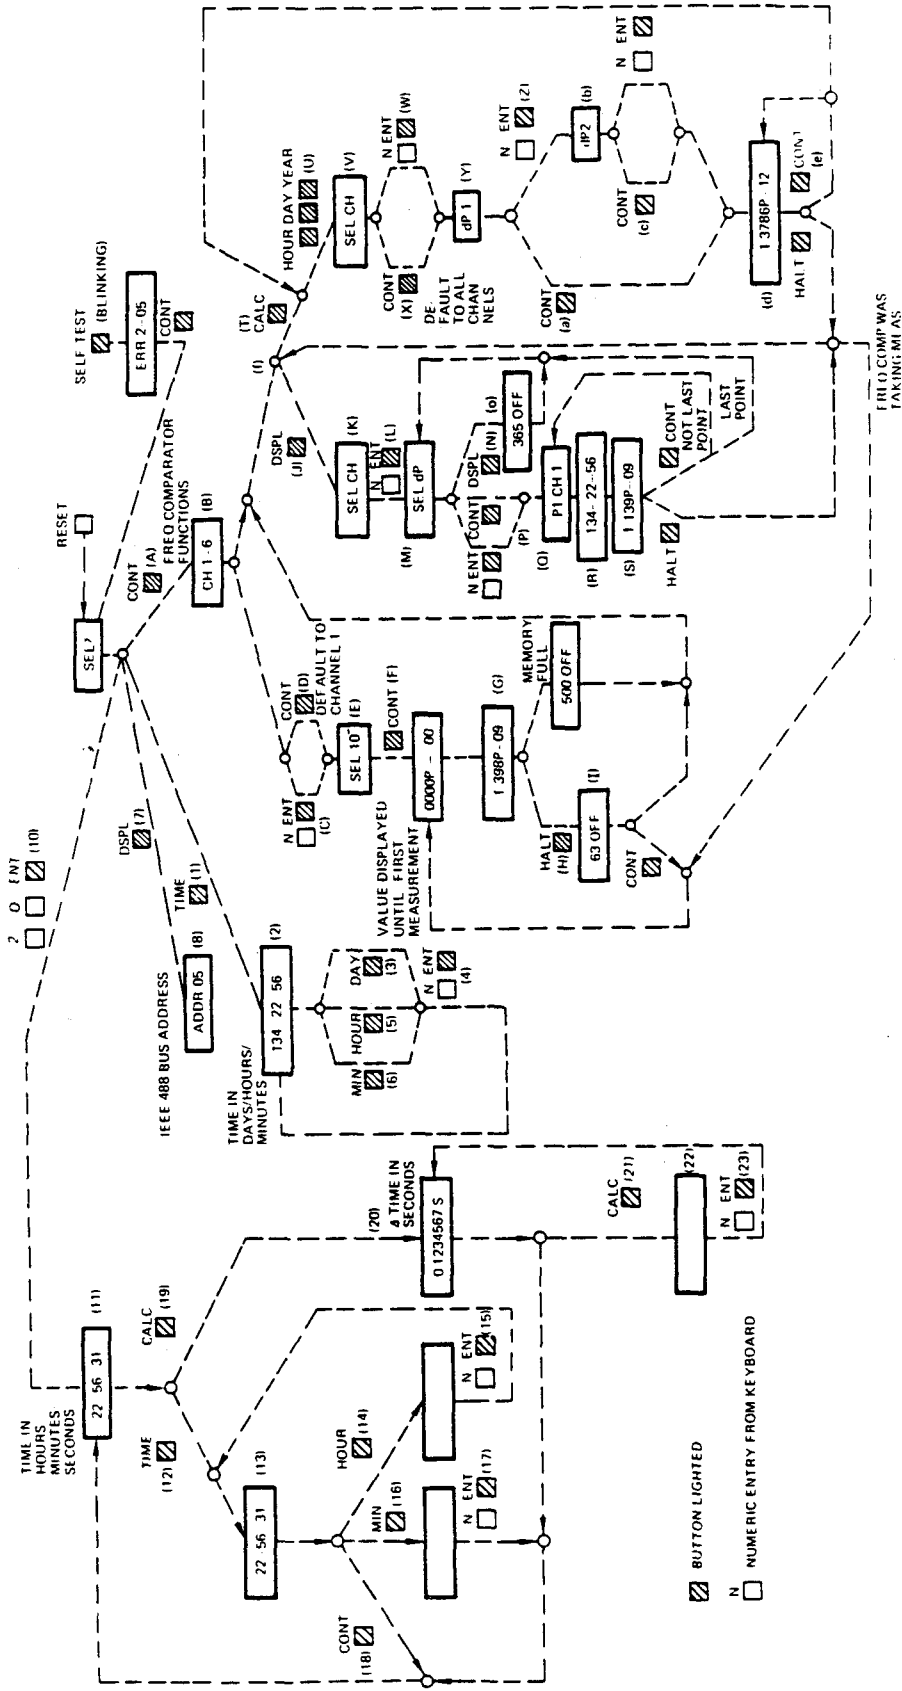

Figure 3.2 Operational Flow Diagram
The following procedures and Figure 3.2 provide the operating instructions for the module controller. Specifically, these instructions tell the operator how to:
The lighted pushbuttons are the only ones that can be used during a routine. The CLR pushbutton only clears the display. In the following procedures, the letters or numbers in parentheses refer to steps on Figure 3.2.
- C. Press lighted CONT pushbutton (A) and CH 1-6 should be displayed (B).
- D. Enter a channel number from 1 to 6 with the keyboard and ENTER function button (C). If only channel 1 is used, 1 is automatically selected by the program, by pressing the CONT button.
- E. Press CONT (D) and SEL 10^{-} should be displayed (E). Select the desired frequency resolution with the RANGE switch on the AS210-02 Frequency Comparator Module.
- F. Press CONT (F). The frequency offset measurement routine now proceeds. 0000P-00 will be displayed until the first measurement is made. Thereafter, the channel number and frequency offset (error) will be displayed for each measurement as it is made until 500 measurements have been taken. A display of 1 398P-09, as shown in Figure 3.2 (G), indicates a frequency offset of 398×10^{-9} on Channel 1. When 500 measurements have been completed without interruption, the program will halt automatically and 500 OFF will be displayed, indicating that 500 data points have been taken and the program is in an OFF condition. The measurement cycle can also be stopped with the HALT function button. The data point number and OFF will be displayed (I). Measurements can be resumed by pressing CONT.